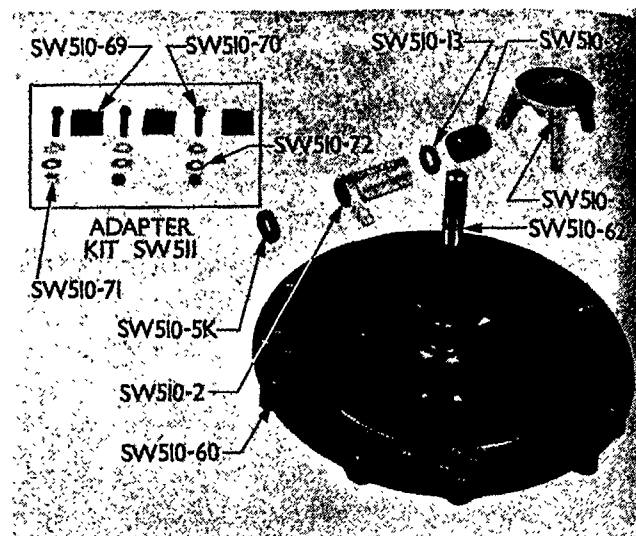

Figure 32
Listed below and illustrated in Figure 32 are the components of Adapter Kit SW511, Gauge Spacer SW510-5K and the detail parts of Universal Clutch Fixture SW510 which are used to overhaul the current type single clutches.
1. Insert the serrated end of the Fixture Spindle, SW510-62, Figure 32, into the hub of the Fixture Base, SW510-60. Place the fixture base on edge and install the Washer, SW510-66 (not shown) and the Jam Nut, SW510-65 (not shown) on the end of the spindle protruding from the bottom of the fixture base. Tighten the nut until the spindle bottoms firmly in the hub.